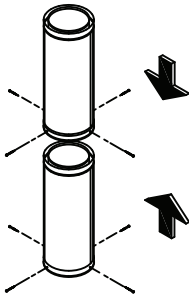

**Figure 4**
**5. Frame Openings:** From the ceiling, drop a plumb bob to the center of the fireplace's flue outlet and mark this center point on the ceiling. Refer to **Table 1** for the framing dimensions. Mark appropriate cutting lines around the center point. Cut a square hole in the ceiling. Frame a level, square opening centered over the hole that you have cut. Frame openings at each floor level above the Fireplace (**Fig. 4**). These openings are to hold the Firestop and Attic Insulation Shield. Locate each opening by
**7. Install Firestop:** A Firestop is required on each floor penetration in multistory installations. Building Codes require a Firestop at every floor/ceiling level, including where the chimney penetrates into the attic. **Figure 4** shows a typical 2-story installation with an attic. **Note:** a Firestop is not installed where the chimney penetrates through the roof. The Firestop is installed on the underside of the ceiling/floor framing (**Fig. 5**). Use a minimum of either one (1) 8-penny nail or one (1) #8, 1-1/4" wood screws per corner.